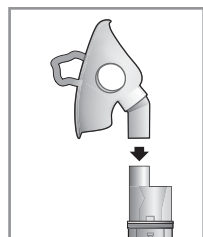

Fig. 3
6. Depending on the type of inhalation, using either a mouthpiece or nozzle or mask. The mask, mouthpiece or nose nozzle is connected directly to the upper part of the nebulizer (Fig.3).